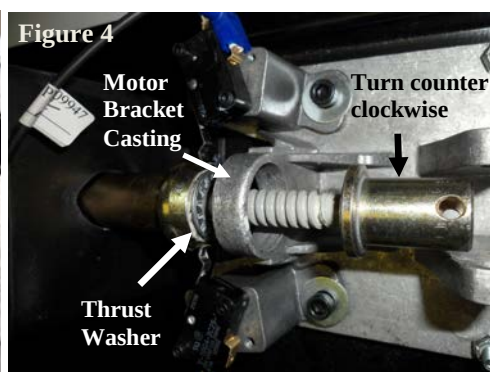

Figure 4
- 7) Turn the Acme screw counter clockwise to remove from the drive nut. Acme screw will extend through motor bracket casting (Figure 4).